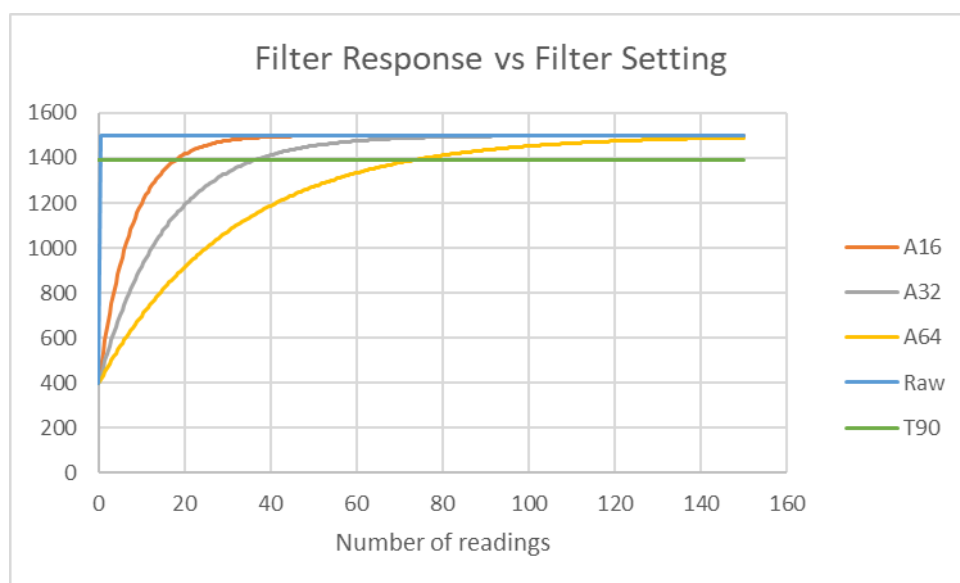

Figure 1: Filter Response vs Filter Setting
Gas Sensing sensors (excluding CozIR-Blink) implement a digital filter that allows the user to select whether to read raw CO₂ data or filtered CO₂ readings from the sensor. This allows the user to trade the response time with reading noise, depending on application requirements. The graph below in figure 1 shows the effect of the filter when exposed to a step change. The raw reading (Z) changes from 400 to 1500ppm on the next measurement sample. With a digital filter setting of 16, T₉₀ is a period of 18 readings. For a CozIR®-LP3, this equates to 9 seconds (2 readings per second), or 360 milliseconds (50 readings per second) for a SprintIR®-R.